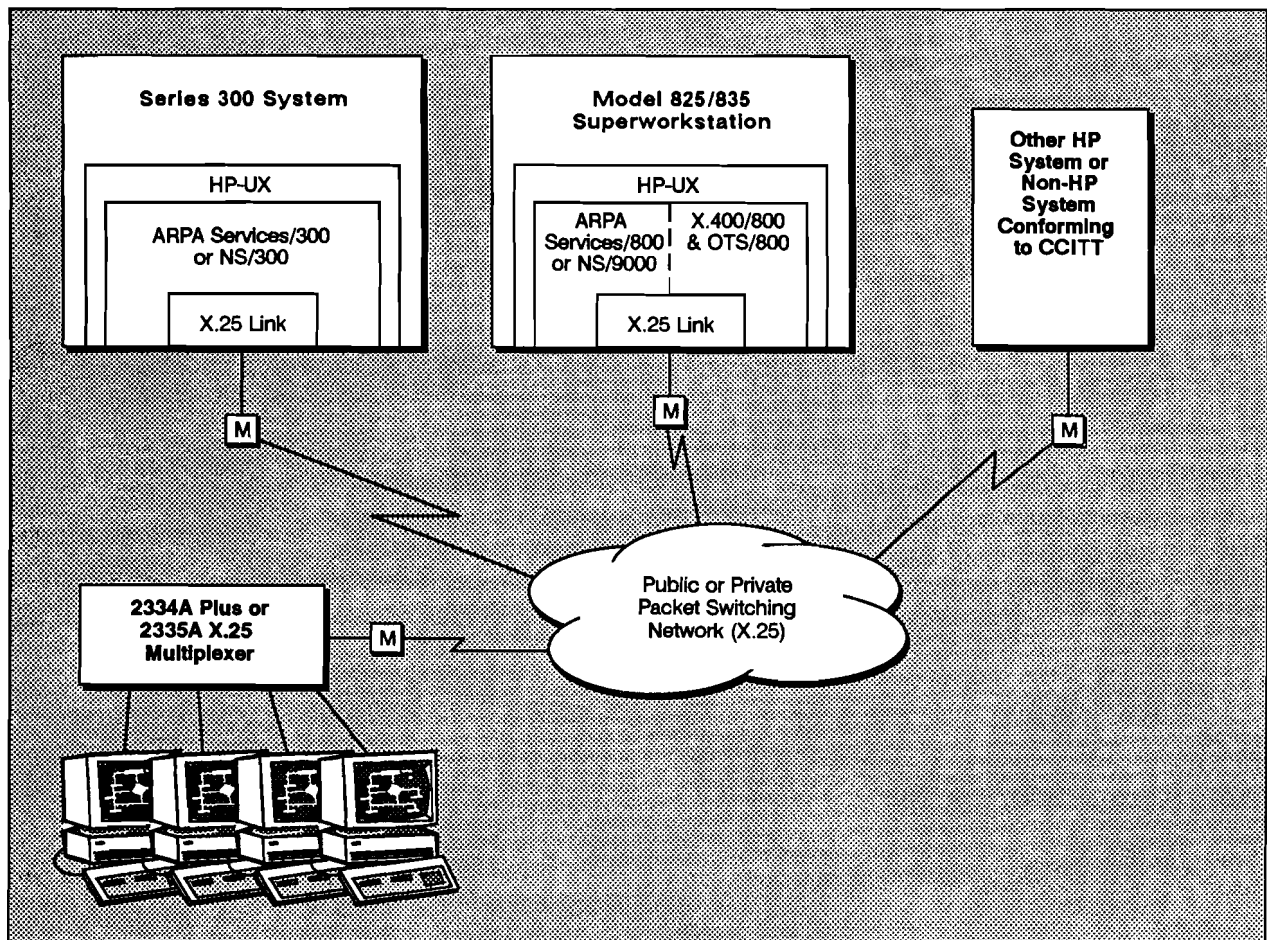
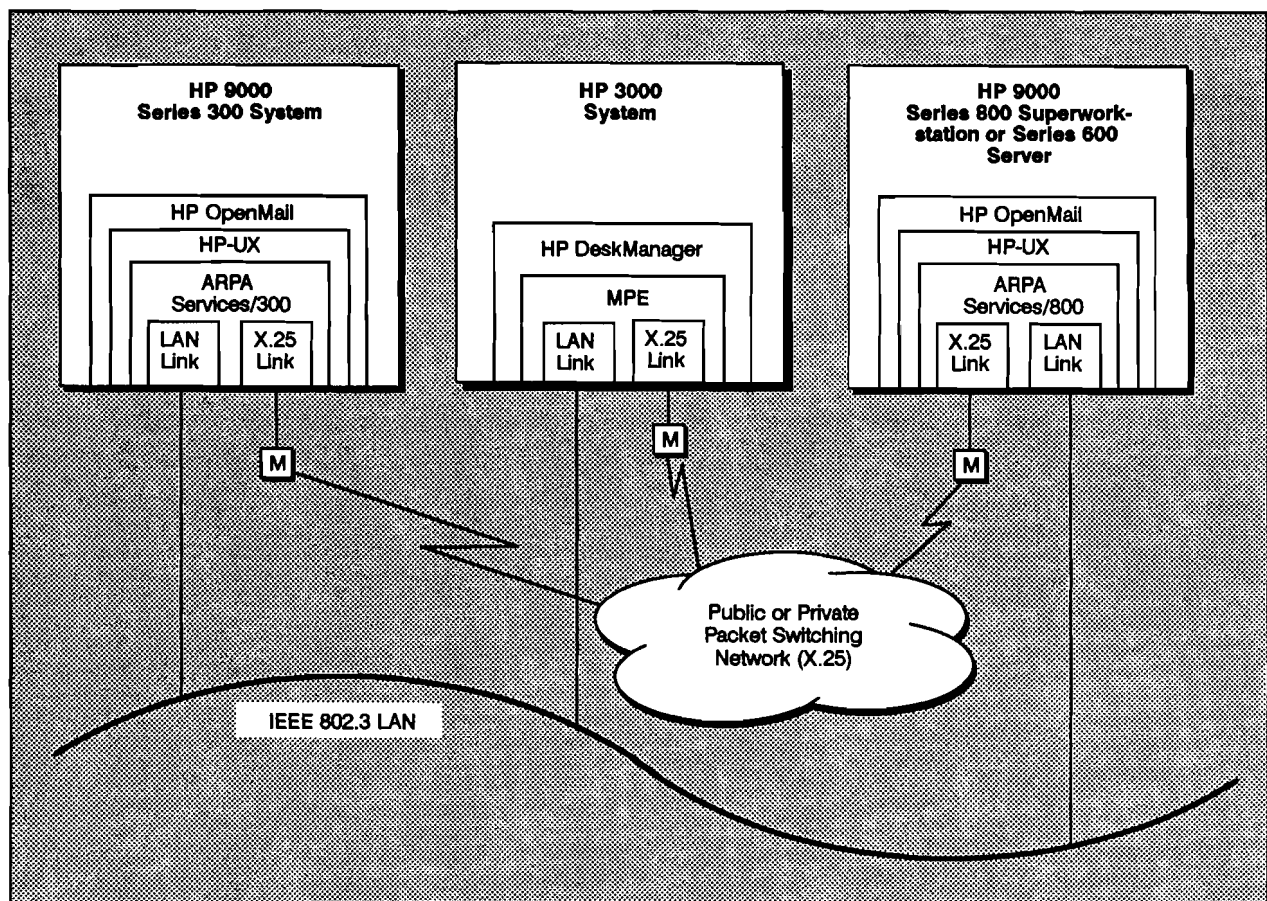

Figure 5-2. X.25 Communications for Series 300 Systems and Model 825/835 Superworkstations
Figure 5-3. HP OpenMail Communications for Series 300 Systems and Series 800 Superworkstations
X.25 Communication for Series 300 systems and Model 825/835 Superworkstations is illustrated in Figure 5-2, below. Higher-level communication is supported by Network Services, ARPA Services, (and X.400 software in Model 825/835 Superworkstations). The capabilities are summarized in Table 5-2, next page. Communication to remote terminals connected via an HP 2334A Plus or 2335A X.25 Multiplexer is also supported and programmatic access to the X.25 packet layer is provided.
HP 9000 systems with X.25 Link can be configured as a DTE (Data Terminal Equipment) to transmit via a public or private X.25 network, as shown in Figure 5-2. Data rates up to 64 Kbps are achievable on Model 825/835 Superworkstations; up to 19.2 Kbps on the Series 300. The X.25 Link can also be configured as a DCE (Data Circuit terminating Equipment) to run over direct, hardwired lines. (A modem or modem eliminator is then required between the two computers; no clock signals are available on the X.25 interface.)
The principal connections available for HP OpenMail communication to/from HP 9000 Series 300 systems and Series 800 Superworkstations and Series 600 Servers are shown in Figure 5-3, below. LAN, X.25, and RS-232C links are supported. HP OpenMail uses the Sendmail transport system on top of standard ARPA and Berkeley Services, which is prerequisite. HP OpenMail is fully integrated with HP DeskManager, HP's mailing service on MPE, which enables HP-UX and MPE users to transparently exchange information and gives HP-UX users full access to gateways supported by HP DeskManager, such as PROFs, DISOSS, and HP Telex. In addition, Model 825/835 Superworkstations and Series 600 Servers can also use HP's X.400/800 Message Transfer Agent (see Figure 5-2, page 5-6) to communicate via X.25 with users on other X.400 compatible mailing systems in a multivendor environment. See Table 5-3, next page, for capabilities.